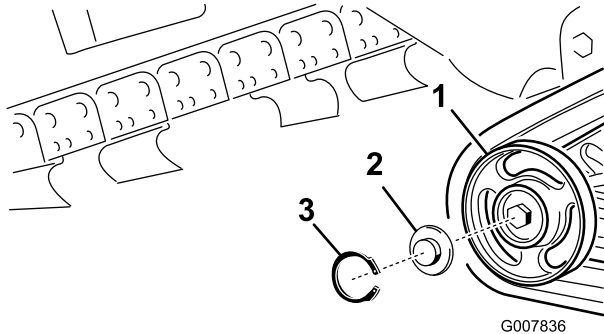

Figure 50
2. Remove the snap ring and cap from a road wheel (Figure 50).
3. Check the grease under the cap and around the gasket (Figure 50). If it is dirty, gritty, or depleted, clean out all of the grease, replace the gasket, and add new grease.
5. Place the greased road wheel cap over the bolt head (Figure 50).
6. Secure the road wheel cap with the snap ring (Figure 50).